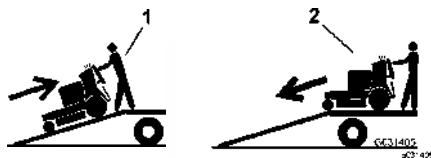

Figure 29
5. Back the machine up the ramp (Figure 29).